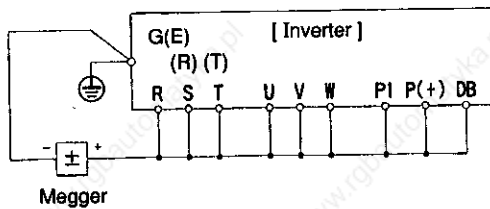

Fig.12-4-1 Megger test
**(1) Main circuit**
- ① Use a DC 250V megger for 200V series and a DC 500V megger for 400V series Inverters. If 200V series Inverters are tested using a DC 500V megger, accurate measurements may not be possible due to leakage current as a result of voltage characteristics of built-in surge absorber at the main circuit power supply (Input).
- ② Disconnect all wires that are connected to terminal board of the main and control circuits and to external circuits.
- ③ Connect main circuit terminals R, S, T (R,T), P1, P(+), DB, U, V and W with a common wire as shown in Fig. 12-4-1.
- ④ Carry out the megger test between the main circuit common wire and the ground (ground terminal G(E) only.)
- ⑤ The condition is normal if the megger shows a resistance of 5MΩ or more.